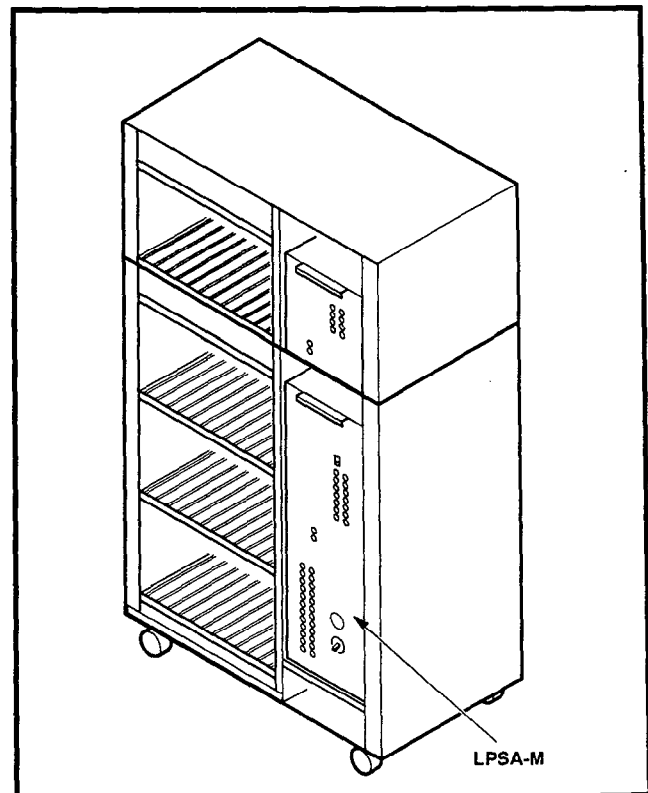

FIGURE 2-5—PERCEPTION_{ex} MAIN POWER SUPPLY
2.21 The Main Power Supply (LPSA-M) consists of a single metal chassis which contains the system ring generator and charger/inverter for the Reserve Power. A circuit breaker switch, LED indicators, AC power indicator and system power switch are located on the front of the chassis. For ease in installation a handle is located at the top front of the power supply (Figure 2-5).